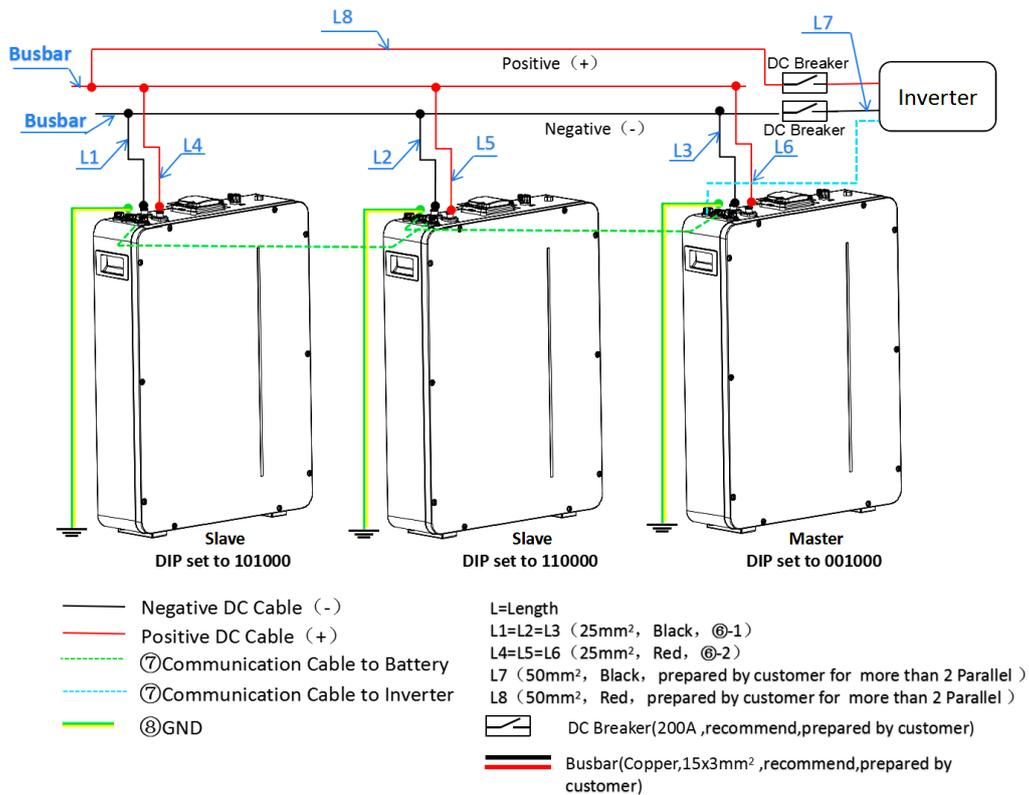

Fig. 5.1.1 Multi-Sets Connection (Example:3 Parallel,15kWh,Output Power 7.5kW)
Use a screwdriver to fix the ⑧ ground wire terminal to the battery ground point refer to Fig. 5.1.1.
Connect the power cable to the corresponding connector refer to Fig. 5.1.1